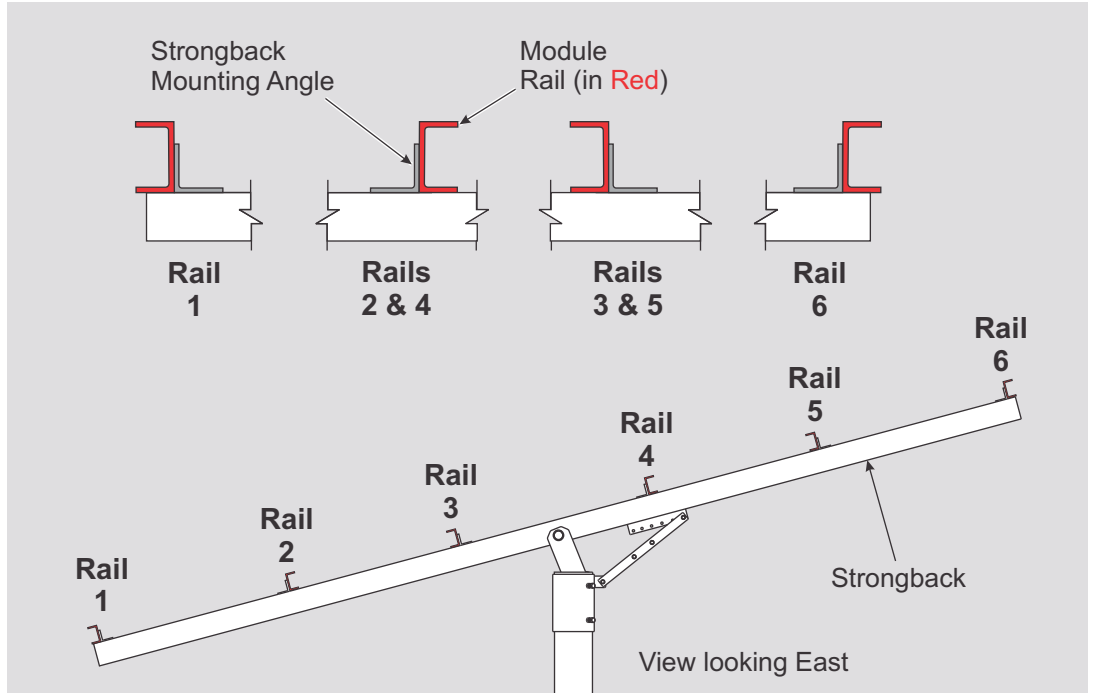
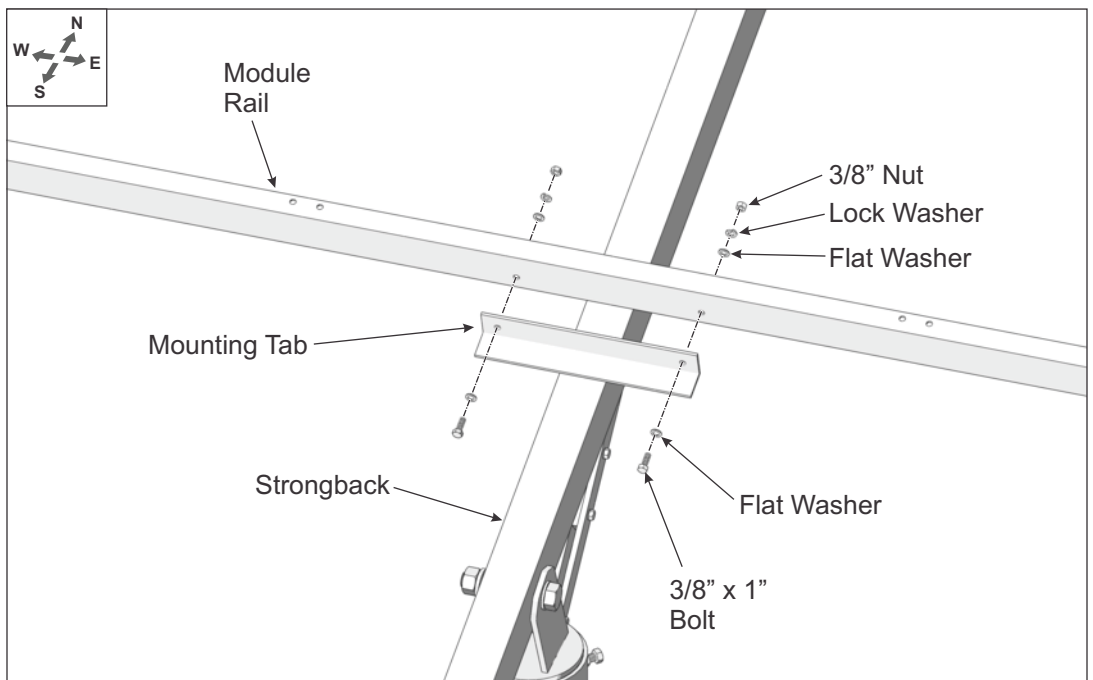
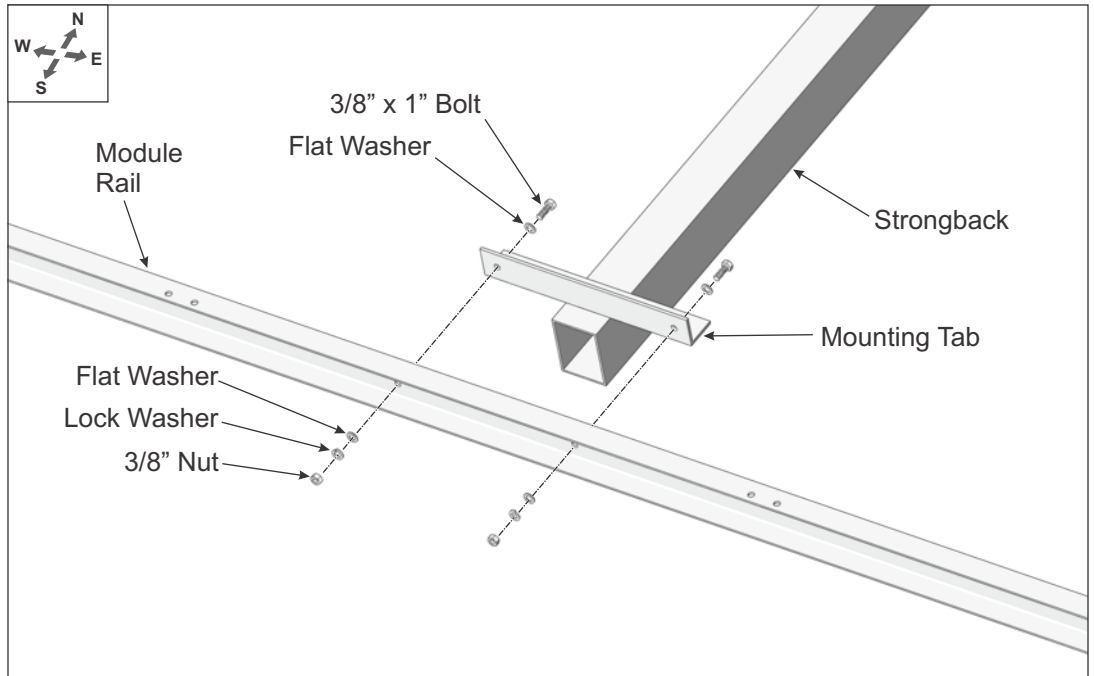

Figure 3-1: Orientation of Module Rails to Strongback Mounting Tabs
Figure 3-2: Installing inboard Module Rails to the Strongback
Figure 3-3: Installing outboard Module Rails to the Strongback
The orientation of the Module Rails to the Strongback is critical to the successful installation of the PV Modules. In Figure 3-1, the location and orientation of the Module Rails are identified using the numbers 1, 2, 3, 4, 5 & 6. Match the Rail number within Figure 3-1 to properly orient the Module Rails to the Strongback.
- A. Referring to Figure 3-1 for orientation of the Module Rails, position and align the Module Rail mounting holes with the holes of the Strongback mounting tabs and secure with 3/8” x 1” bolts and hardware. Finger-tighten for now. (See also Figure 3-2)
- A. Referring to Figure 3-1 for orientation of the outboard Module Rails, position and align the Module Rail mounting holes with the holes of the Strongback mounting tabs and secure with 3/8" x 1" bolts and hardware. Finger-tighten for now. (See also Figure 3-3)